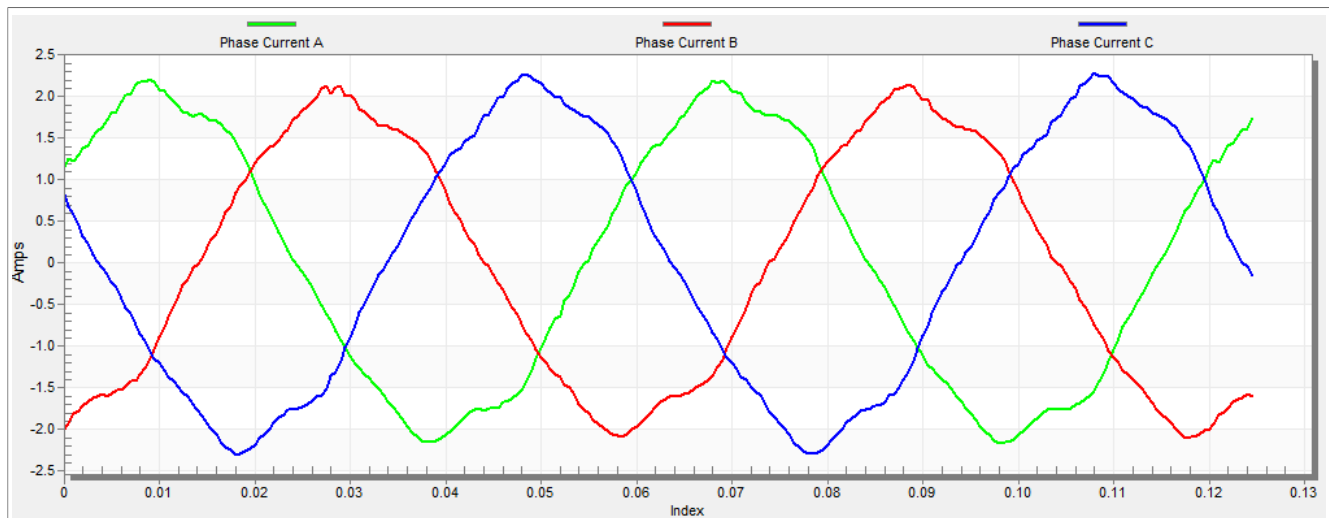

Figure 27. Phase currents
5. The optimal ratio for the V/Hz profile can be found by changing the V/Hz factor directly using MCAT input "Scalar V/Hz factor ratio". The shape of the motor currents should be close to a sinusoidal shape (Figure 27).